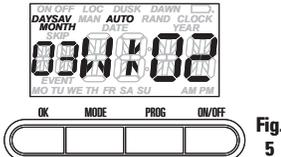

Fig. 5
- After choosing **AUTO** or **MANual**, press the **OK** button. The timer's starting date for DST will show in the display in the form of **MONTH** and week (Fig. 5).